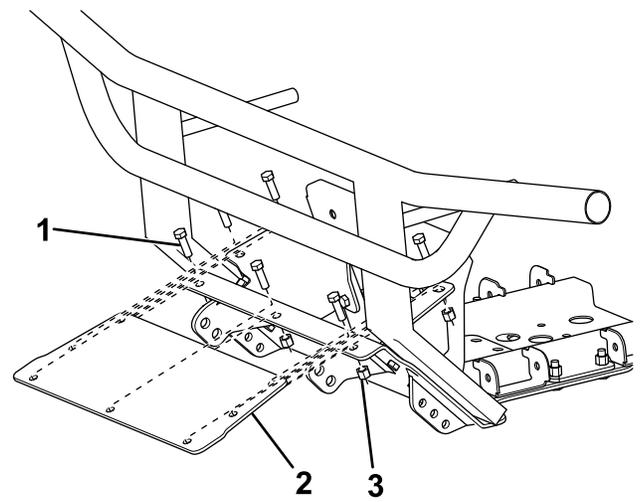

Figure 4
9. Secure the winch plate to the plow skid plate and support mounts using 7 bolts (3/8 inch) and locknuts (Figure 4).